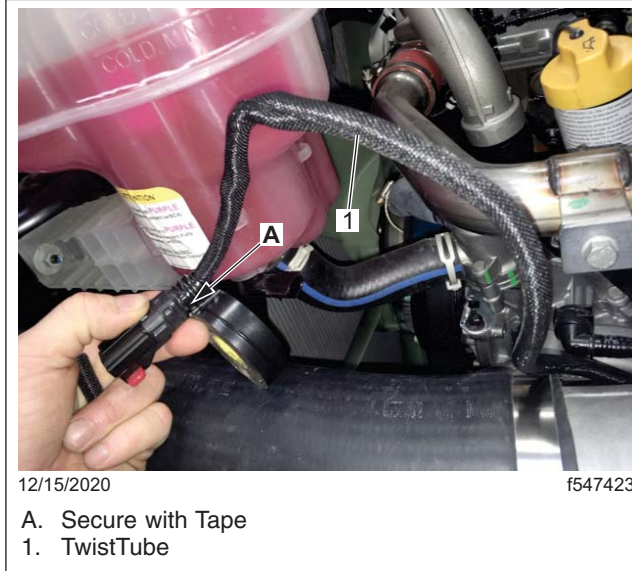

Fig. 6, TwistTube Added to the Wiring
8. Add two feet of 8 mm TwistTube to the low coolant sensor wiring from the connector to the engine clipping point. Insert a half-inch of the TwistTube into the connector backshell and secure it with tape. See Fig. 6.